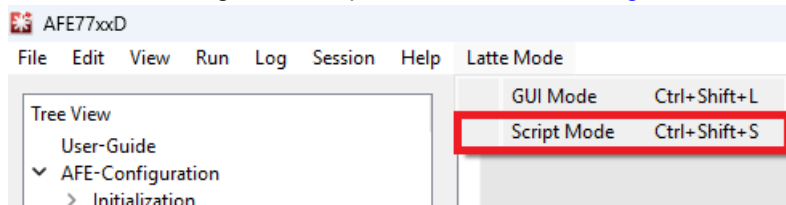

Figure 3-13. Switching to Script Mode
- At the top, click *Latte Mode* and navigate to *Script Mode* as shown in Figure 3-13.